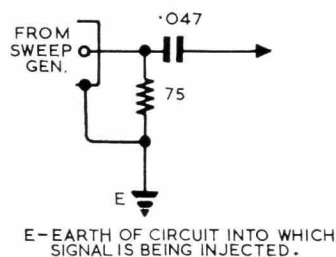

Fig. 1.
To align the vision IF amp., a sweep generator and a marker generator, both covering the range 28 to 38.5 Mc/s are required, together with a display unit. The marker generator may be a signal generator and the display unit a C.R.O. These instruments should be interconnected as described in the instructions supplied with the sweep generator. The sweep generator should be terminated with a resistor equal to its output impedance and connected to the receiver as shown in Fig. 1.
- (a) Using the termination network as shown in Fig. 1, connect sweep output between pin 2 of V5 and earth.
- (a) Remove the sweep from V5 and connect it as shown by Fig. 1 to pin 2 of V4.